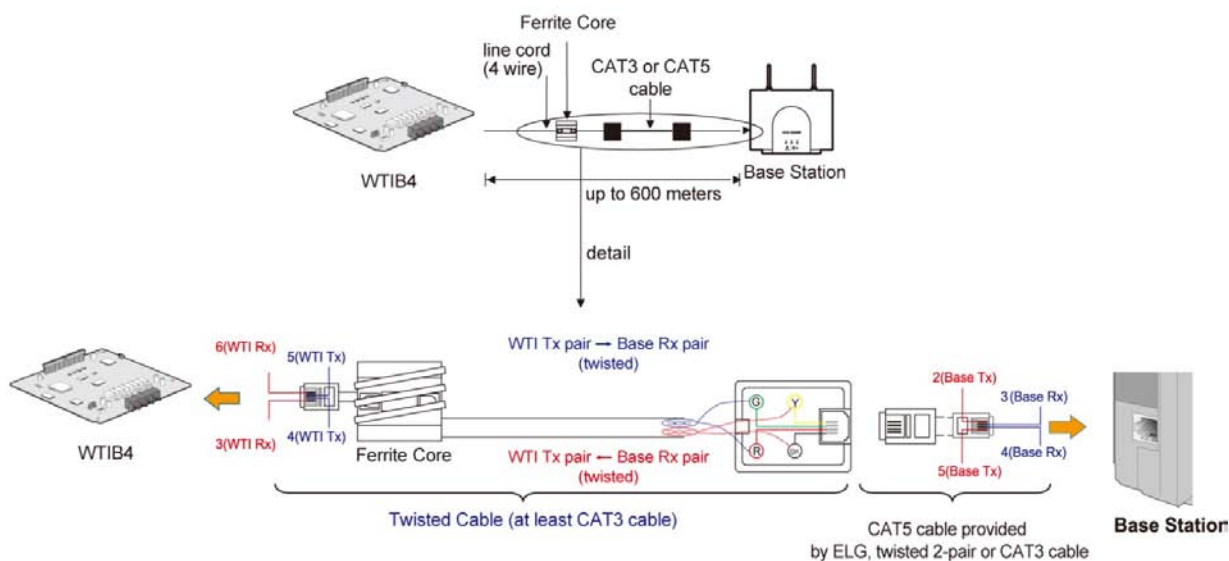

Figure 6.4.8-1 WTIB4 Wiring with Ferrite Core
The WTIB4 has four RJ11 modular jacks for connection to GDC600BE DECT Base Stations. The connectors are terminated as shown in the chart below. Special care is needed when wiring the WTIB4 modular jacks. As shown in Figure 6.4.8-1, a Ferrite core, which is provided with the Base Station, must be installed on the wiring to each modular jack to minimize induced interference. After completing installation and initial power-up of the eMG80 system, the DECT Base Stations can be located and installed as directed in the DECT Installation manual, GDC-600TBE (CRS tool) user manual. After installing the Base Stations, the DECT handsets can be subscribed to the Base Stations and registered to the system.
3. Pass the wiring through the Ferrite core. Creating at least three turns through the core as shown in Figure 6.4.8-1.